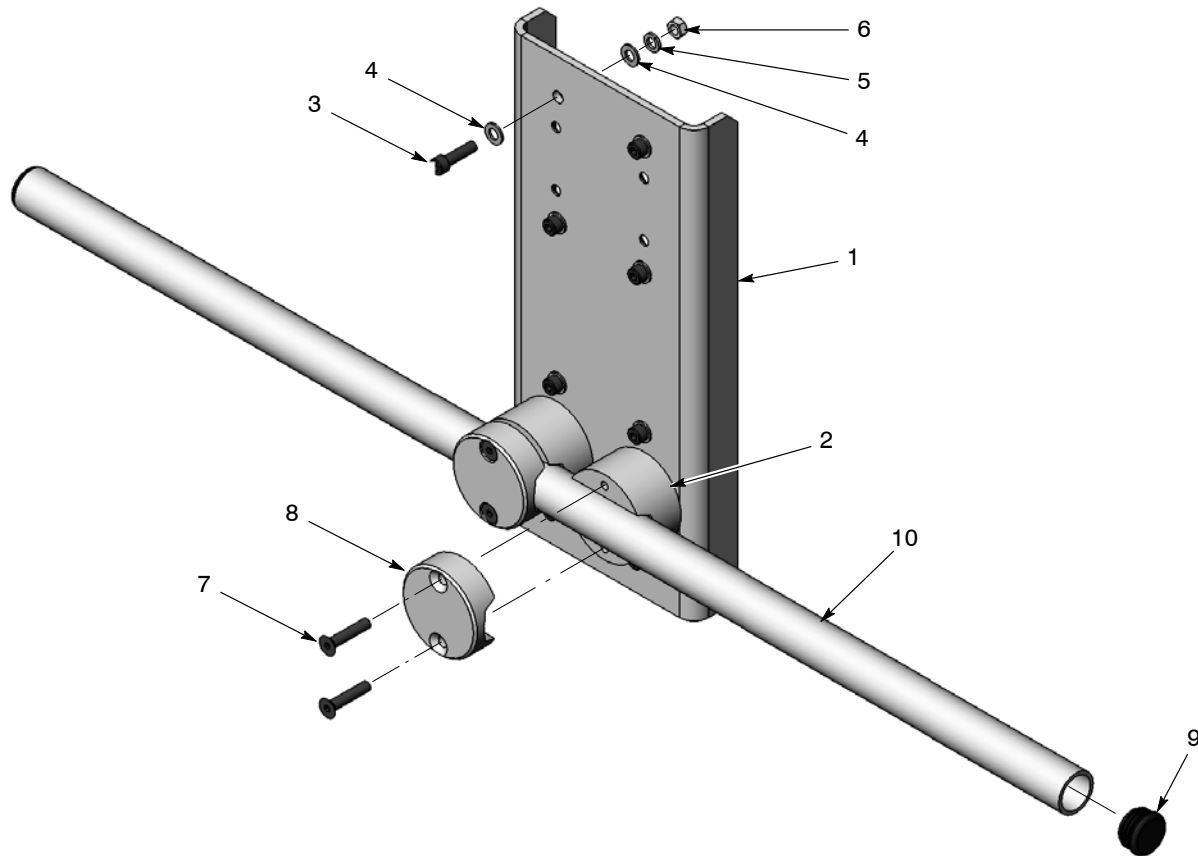

Figure 5 Single Horizontal Bar Gun Support Kit Assembly
See Figure 5. Gun support kits include M8 x 30 socket-head screws, flat washers, lockwashers, and hex nuts (items 3–6). Secure the mounting plate to the oscillator or reciprocator gun carriage with these fasteners.
This kit can be assembled as shown or mirrored vertically if desired. It includes fasteners (see Figure 5) to install the mounting plate on the oscillator or reciprocator gun carriage.
Both single and multiple vertical bar support kits can be assembled as shown or mirrored vertically if desired. The single bar kit accommodates only one mounting bar. The kits include fasteners (see Figure 5) to install the mounting plate on the oscillator or reciprocator gun carriage.